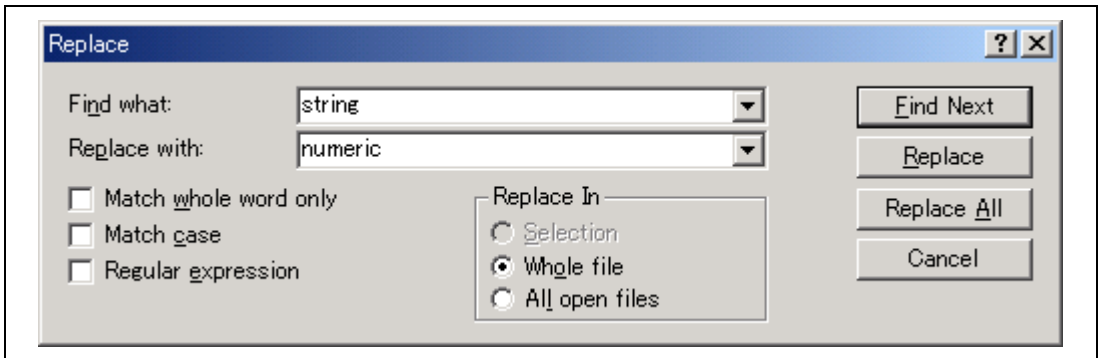

Figure 4.4: Replace Dialog
3. Select **[Edit->Replace...]**, press **CTRL+H** or select **[Replace...]** from the editor window's local menu. A replace dialog box will be displayed * MERGEFORMAT (figure 4.4).